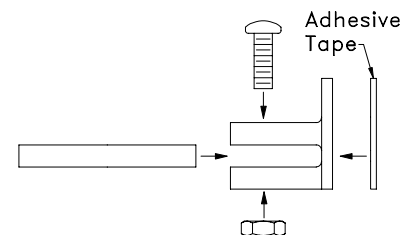

Figure 7 - Assemble Arm & Adhesive Tape to Window Mount
3. You must clean the window mounts on the flat surface where the adhesive tape will be applied (see Figure 7). First, clean them with a window cleaner and a clean lint free cloth. Next, clean the flat surface with one of the included alcohol pads. You can allow the alcohol on the window mounts to dry naturally, or use a clean, dry lint free cloth to dry them. **Do not blow on the surface to speed drying. Do not touch the flat surface of the window mount with your fingers after you have cleaned it. Finger oils left on the window mount will destroy the adhesive.**
4. Once the window mounts are clean and dry, you are ready to adhere the adhesive tape to the window mount as shown in Figure 7. The ideal adhesive tape application temperature range is 70°F to 100°F (21°C to 38°C). Minimum acceptable application surface temperature is 50°F (10°C). **Do not touch the adhesive side of the tape with your fingers. Finger oils will destroy the adhesive.** Remove the white side of the adhesive tape backing. Apply the uncovered side of the adhesive tape to plastic window mount. Press firmly for at least 30 seconds on a hard, smooth, flat surface such as a work bench. Bond strength is dependent upon the amount of adhesive-to-surface contact developed. Firm application pressure develops better adhesive contact and thus improves bond strength. Repeat the process for the second window mount.
- Using a #8 machine screw and a #8 machine nut, loosely assemble a medium length suspension arm to a window mount (as shown in Figure 7). Repeat for the second medium length suspension arm and window mount.